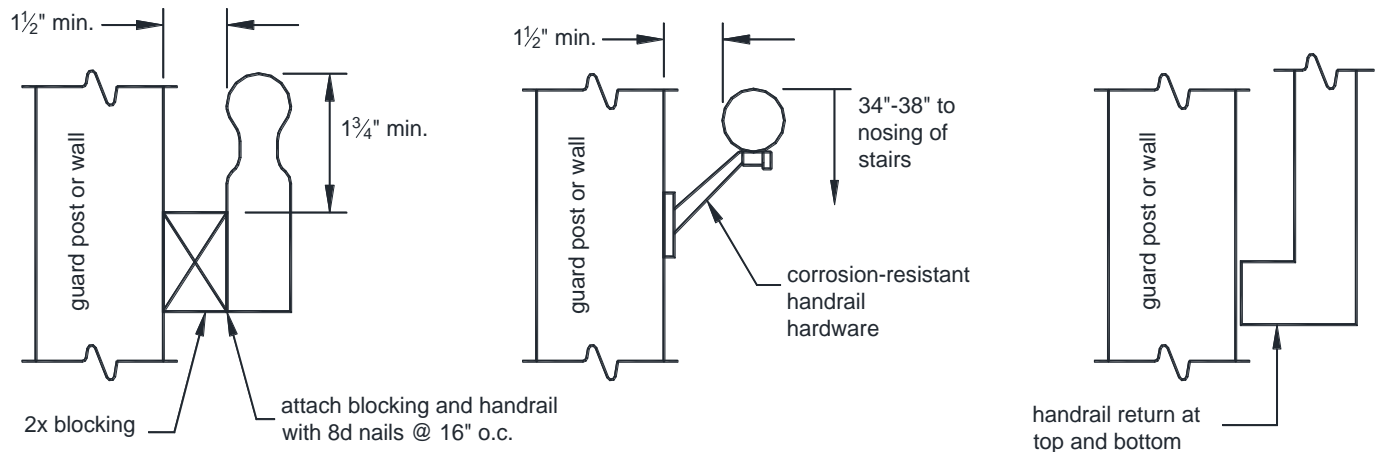

FIGURE 44: HANDRAILS
- Handrails shall be attached to a stair guard or exterior wall acting as a barrier as shown in see FIGURE 44.